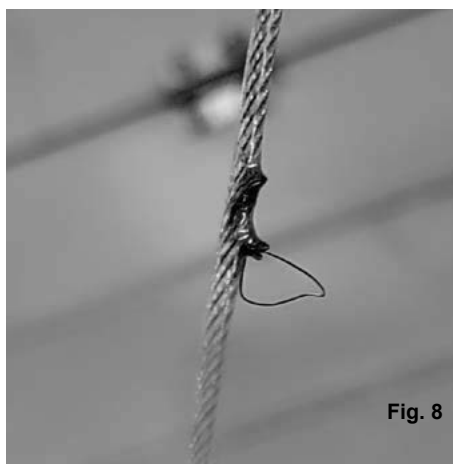

Fig. 8
- No damage to the ET or cable (Fig. 8)